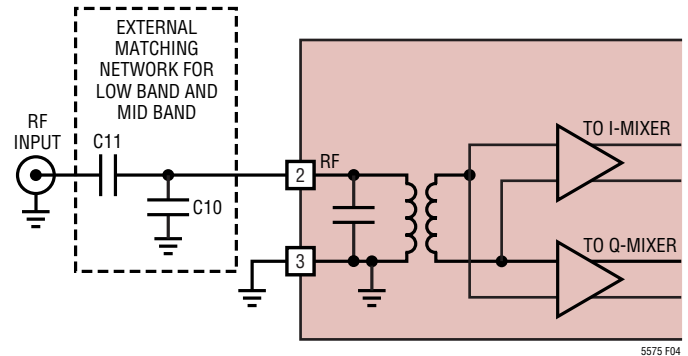

Figure 4. RF Input Interface
**RF (Pin 2):** RF Input Pin. This is a single-ended 50Ω terminated input. No external matching network is required for the high frequency band. An external series capacitor (and/or shunt capacitor) may be required for impedance transformation to 50Ω in the low frequency band from 800MHz to 1.5GHz (see Figure 4). If the RF source is not DC blocked, a series blocking capacitor should be used. Otherwise, damage to the IC may result.
Figure 4 shows the demodulator's RF input which consists of an integrated transformer and high linearity transconductance amplifiers. The primary side of the transformer is connected to the RF input pin. The secondary side of the transformer is connected to the differential inputs of the transconductance amplifiers. Under no circumstances should an external DC voltage be applied to the RF input pin. DC current flowing into the primary side of the transformer may cause damage to the integrated transformer. A series blocking capacitor should be used to AC-couple the RF input port to the RF signal source.
The RF input port is internally matched over a wide frequency range from  $1.5\text{GHz}$  to  $2.7\text{GHz}$  with input return loss typically better than  $10\text{dB}$ . No external matching network is needed for this frequency range. When the part is operated at lower frequencies, however, the input return loss can be improved with the matching network shown in Figure 4. Shunt capacitor C10 and series capacitor C11 can be selected for optimum input impedance matching at the